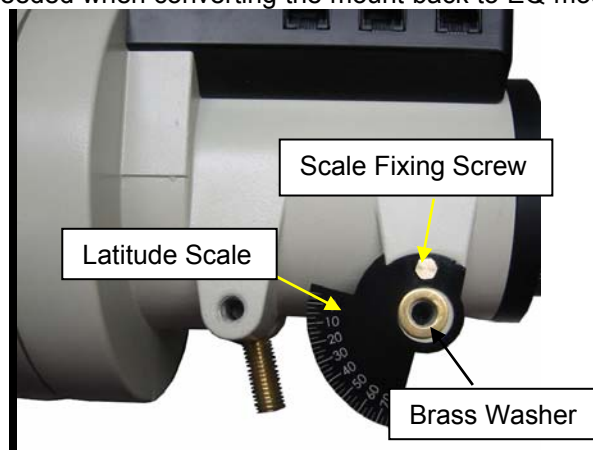

Figure 18
- Remove the Latitude Scale, which is secured onto the mount with a Fixing Screw, as shown in **Figure 18**. Do not break the plastic scale. These parts are needed when converting the mount back to EQ mode.